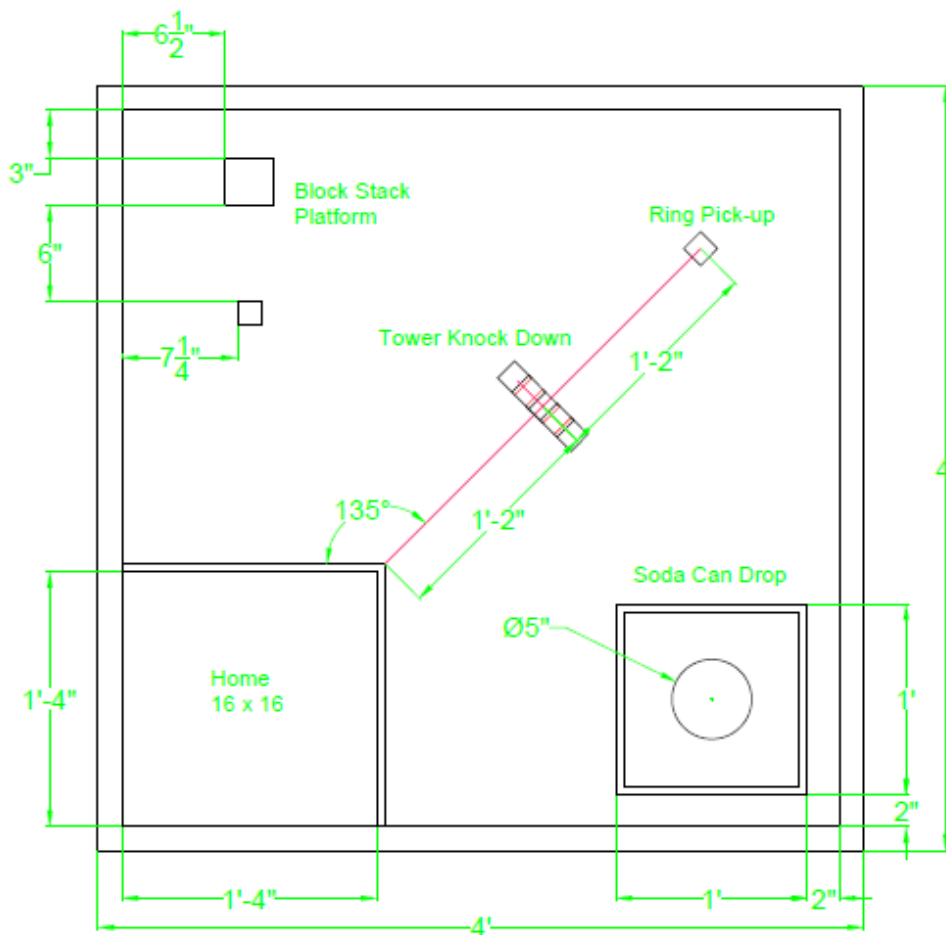

Figure 5 – Autonomous Task CAD Drawing
- The base of the ring is a 1” cube with a 2” diameter ring on top of it. The height from the bottom of the base of the cube to the center of the hoop is 3”. See Figure 5 below. 3D printed ring file: 3D Ring Stand STL